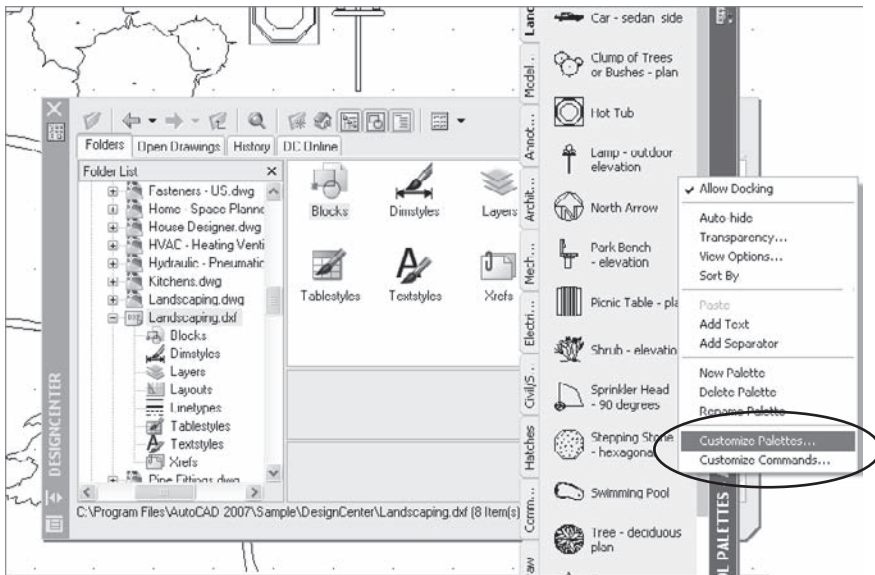

Figure 3.3
1. Open the Customize dialog box by right-clicking an empty area of the tool palette and selecting `Customize Palettes` (see Figure 3.3).